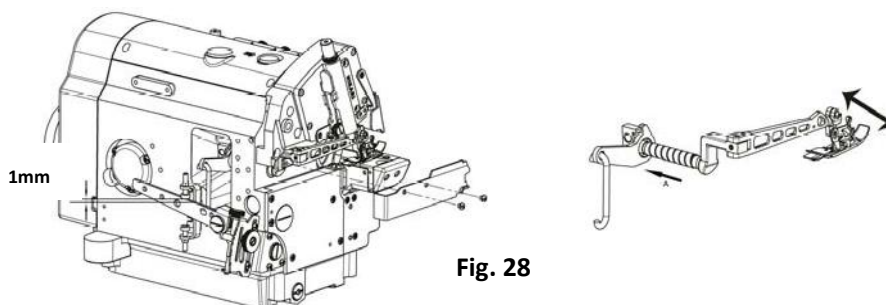
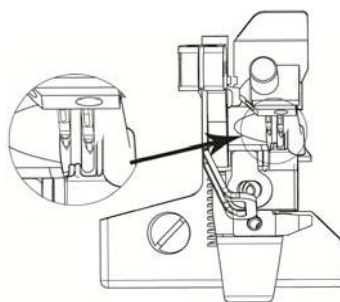

Fig. 28
Fig. 29
3. Check to see if the slot(s) of the needle(s) on the presser foot is (are) aligned with that (those) on the needle plate. If not, loosen fixed presser foot bushings screw, and adjust presser arm by moving it left or right. After this adjustment, tighten screw. (Fig. 28, Fig. 29)